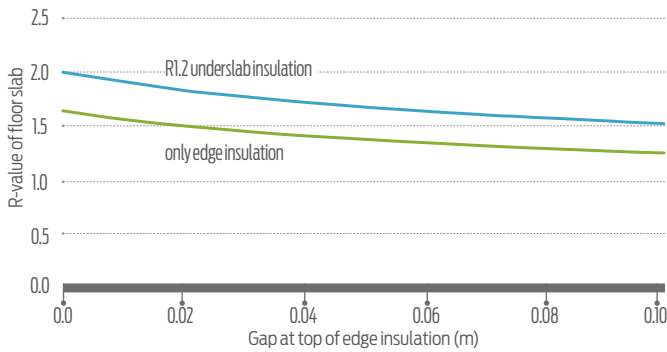

Figure 2: Impact of gap between top of the edge insulation and floor surface.
- size of any gap between the top of the edge insulation and the floor surface (see Figure 2)